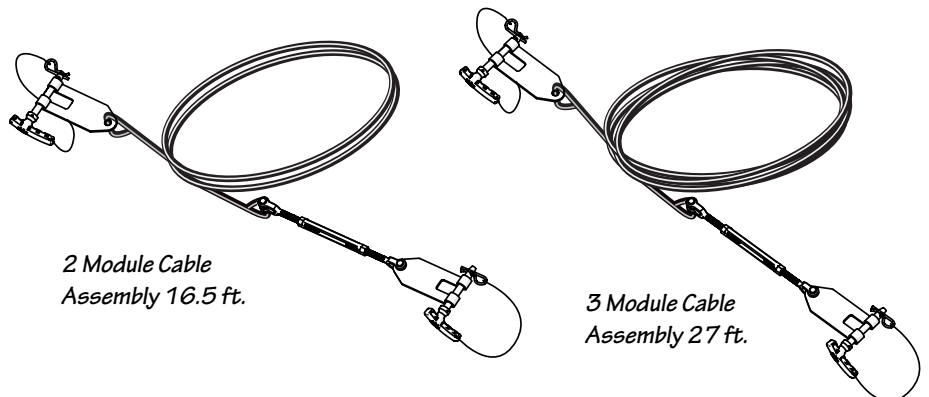

Fig. 11-1
- Remove the pull pin from the curved mounting bracket of the cable assembly. Shown in Fig. 11-1.